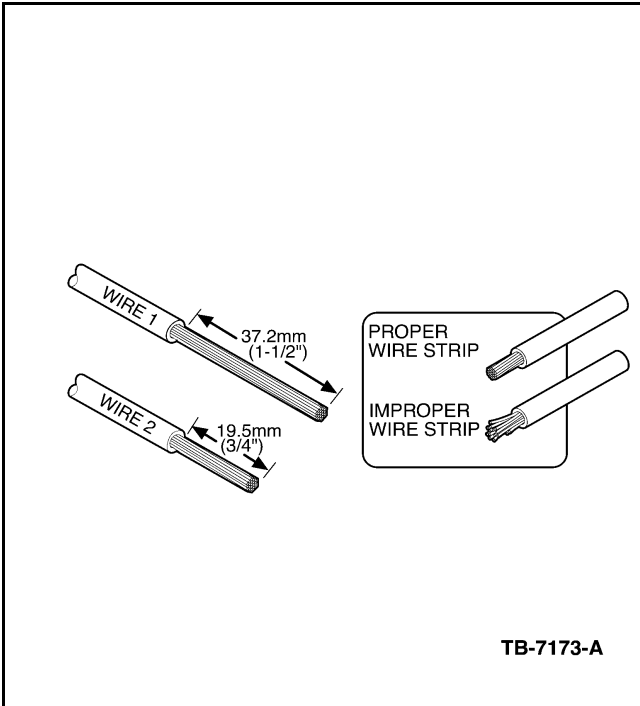

Figure 3 - Article 03-11-6
1. Strip 1-1/2" of insulation from Wire #1 and 3/4" of insulation from Wire #2 taking care not to nick or cut wire strands (Figure 3). Pull wire straight from stripper. If wire is pulled at an angle, wire strands may be cut off. If more than one (1) strand is cut off during stripping, cut off the end and re-strip.